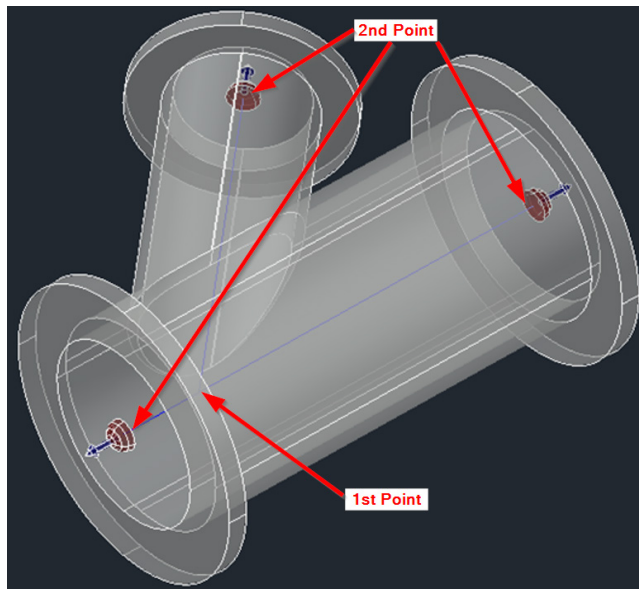

Figure 7.12 – Establishing the connection points and direction for our custom part
6. After selecting one of the connection points, we'll next be prompted to pick the first point followed by the second point for the direction of the connection. At this point, we'll want to make sure that we select the opposite side of the part and then reselect the same insertion point we initially selected to establish the direction for connecting pipes to exit our new fitting. We'll do this for all three exit locations (refer to *Figure 7.12*):